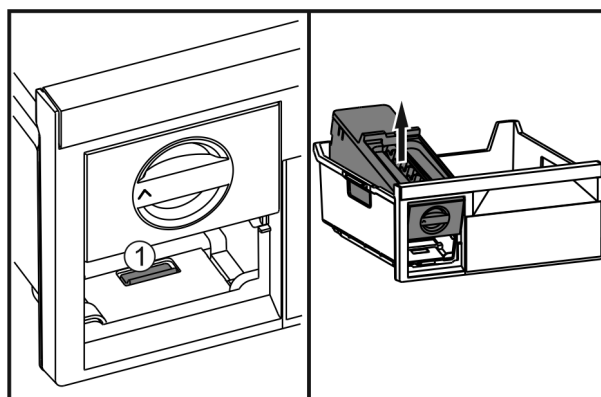

Fig. 46
- ▶ Press the lug Fig. 46 (1), lift up the EasyTwist-Ice at the rear and take it out of the freezer drawer.